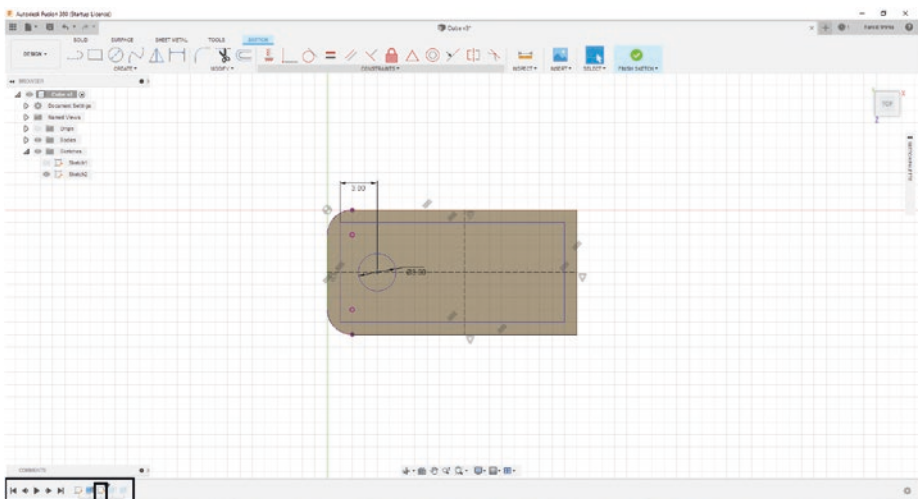

Figure 3-78. Select Sketch2 in the Design History Bar
35. Now drag the Design History Bar slider to the right after Sketch2 and double-click the Sketch2 icon in the Design History Bar. See Figure 3-78.